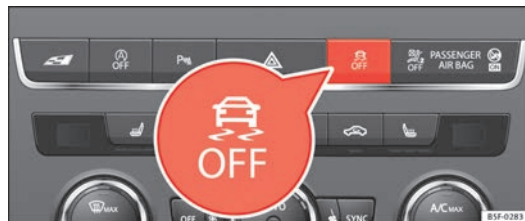

Fig. 155 Centre console: Button for switching on/off the ESC and ASR
- Press the button  ⇒ Fig. 155 for approximately 1 second to switch off the ASR function.
- Press the button  ⇒ Fig. 155 for approximately 3 seconds to switch off the Electronic Stability programme (ESC), including the ASR function.
- The ASR and ESC function are reconnected by pressing the button  ⇒ Fig. 155.